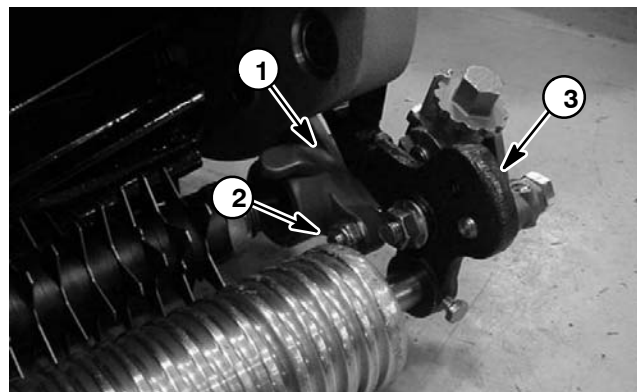

Figure 14
B. Remove lock nut and spring washer that secure LH groomer arm lift rod to LH groomer side plate (Fig. 14). Remove LH groomer side plate from mower.
B. Place spring washer and lock nut on lift rod threads (Fig. 14). Tighten lock nut.